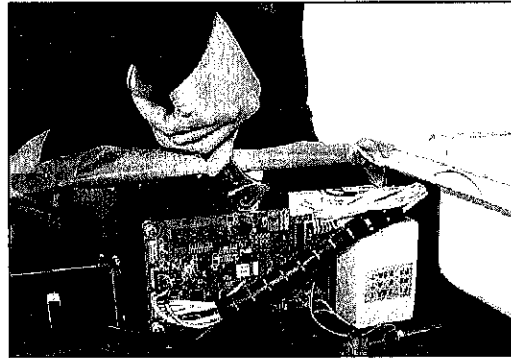

fig.5
- Open the control panel of the washing machine using the wrench 22mm (7/8 inch.). (fig. 5).